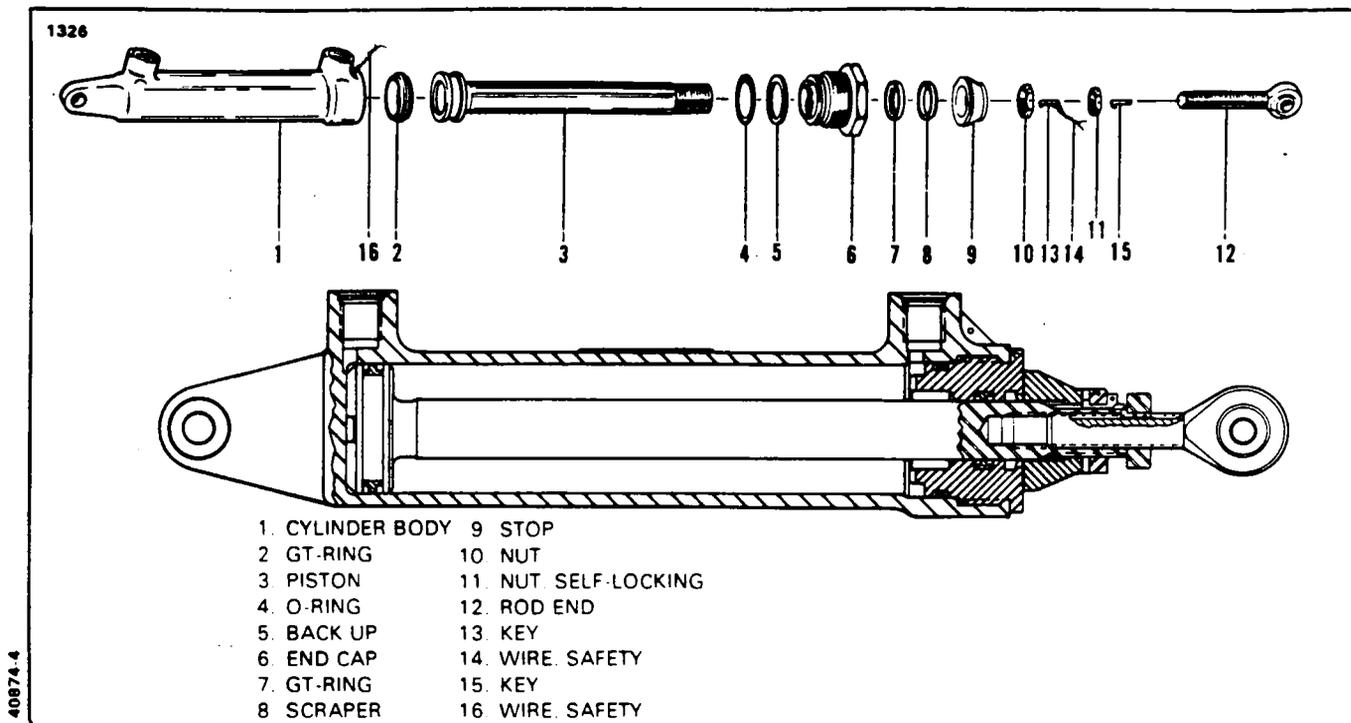

Figure 32-11. Gear Actuating Cylinder (Wiel Tool WTC 2115-1)
**DISASSEMBLY OF GEAR ACTUATING CYLINDER (WTC-2115-1). (Refer to Figure 32-11.)**
**ASSEMBLY OF GEAR ACTUATING CYLINDER (WTC 2115-1). (Refer to Figure 32-11.)**